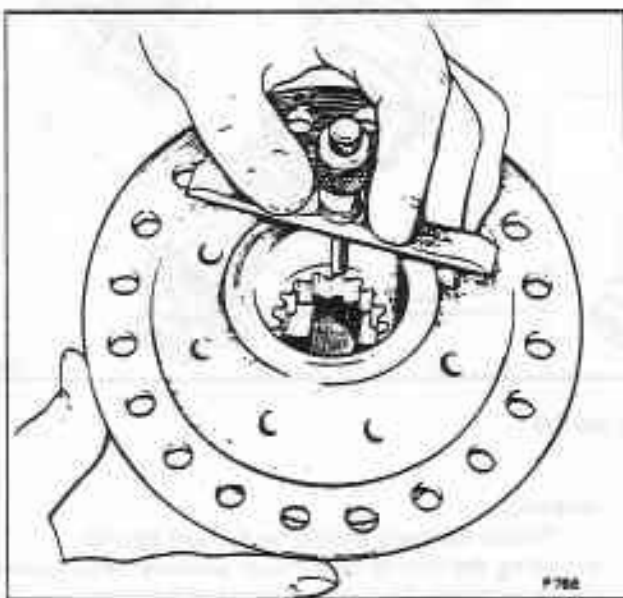

Fig. J1-6 Splined bevel pinion measurement
5. Push the splined pinion gear into mesh with the bevel gears as far as possible. Measure the distance from the end of the differential housing to the end face of the pinion gear (see fig. J1-6).